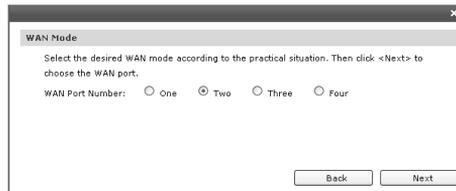

Figure 5-5 WAN Mode
4. Select the total number of WAN ports you prefer to use as the Figure 5-5 shows. Then click **Next** to load the **WAN Port** screen.